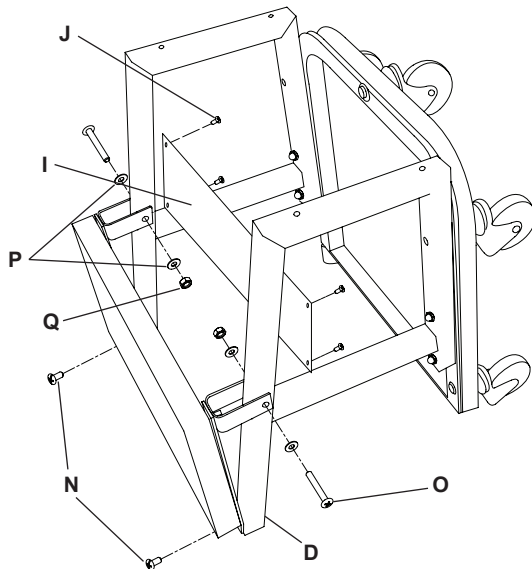

Figure 3 - Attaching Creeper Seat
3. Attach creeper Seat Cushion Assy. to creeper Side Frames (D) using two M6 x 40 Phillips Head Screws (O), with washers (P), and nuts (Q), and two M6 x 16 Phillips Head Screws (N). Then attach the Warning Plate (I) with four M6 x 12 Hex Head Bolts (N) (Fig. 3).